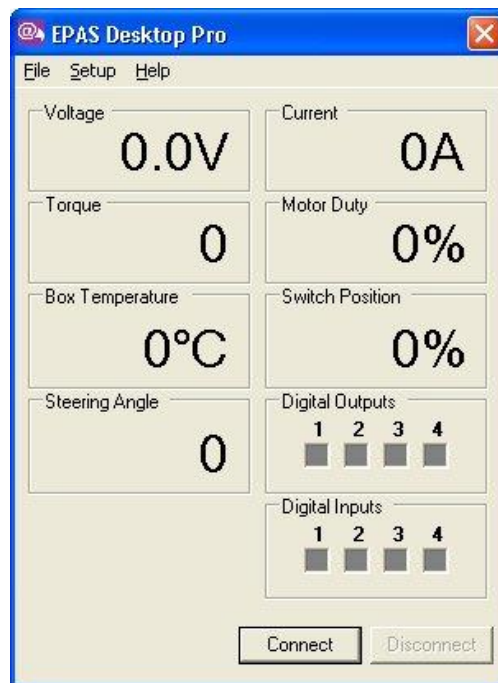

Figure 1 - EPAS Desktop Pro Main Screen (Inactive)
5. Locate the required .hex file and click **Open**, the Upload Hex File dialog (Figure 1) will be displayed.